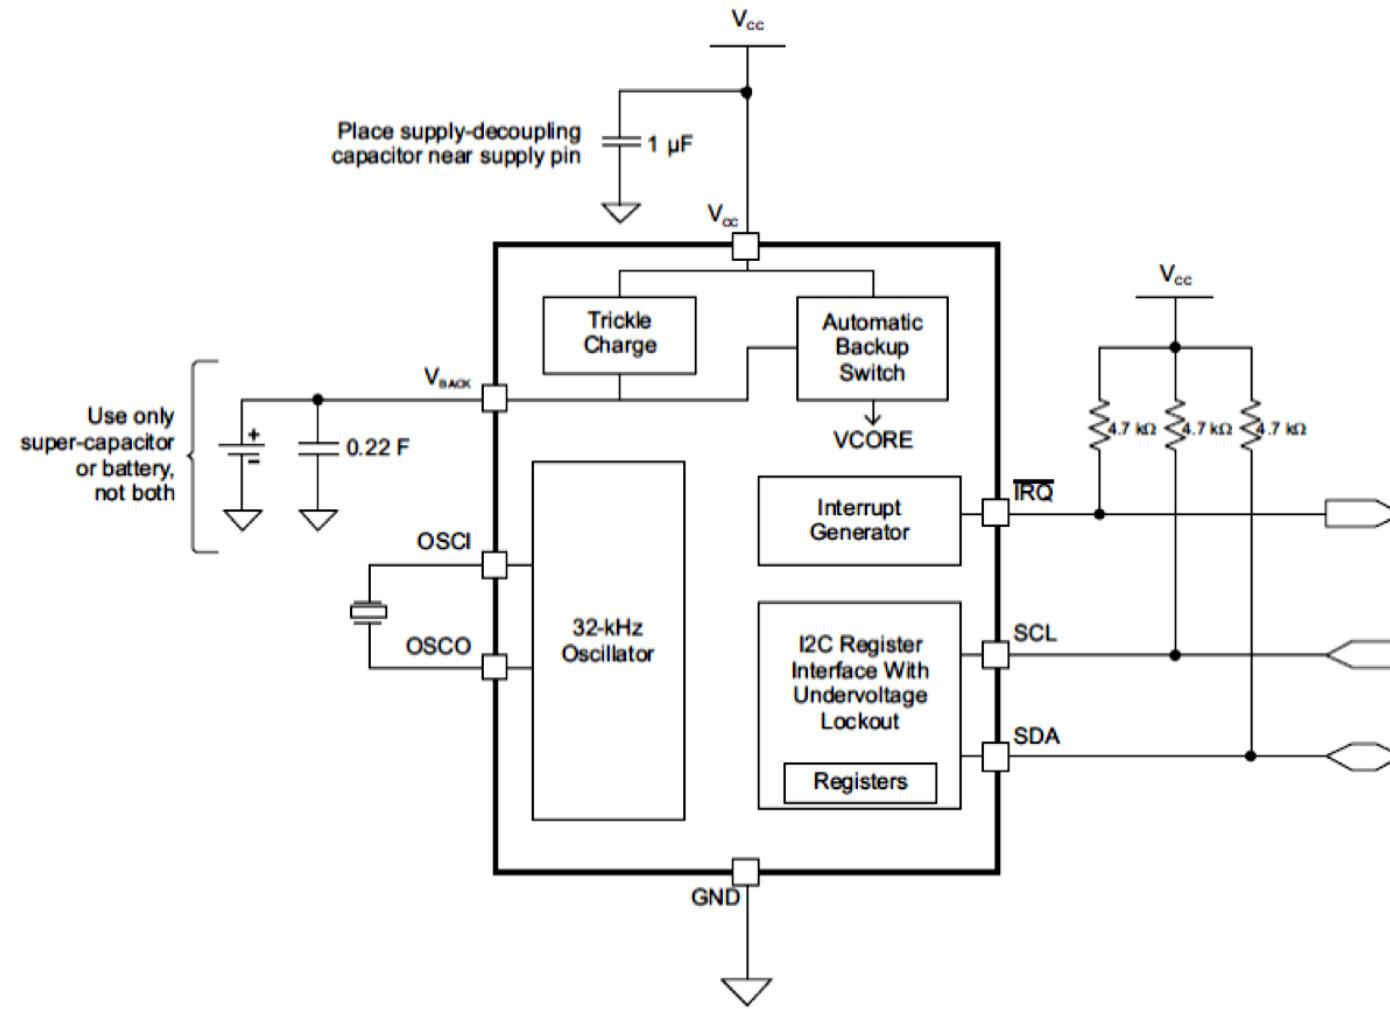

Figure 8.56 The functional block diagram of BQ32000 RTC.
- A functional block diagram of the **RTC BQ32000** is shown in Figure 8.56.